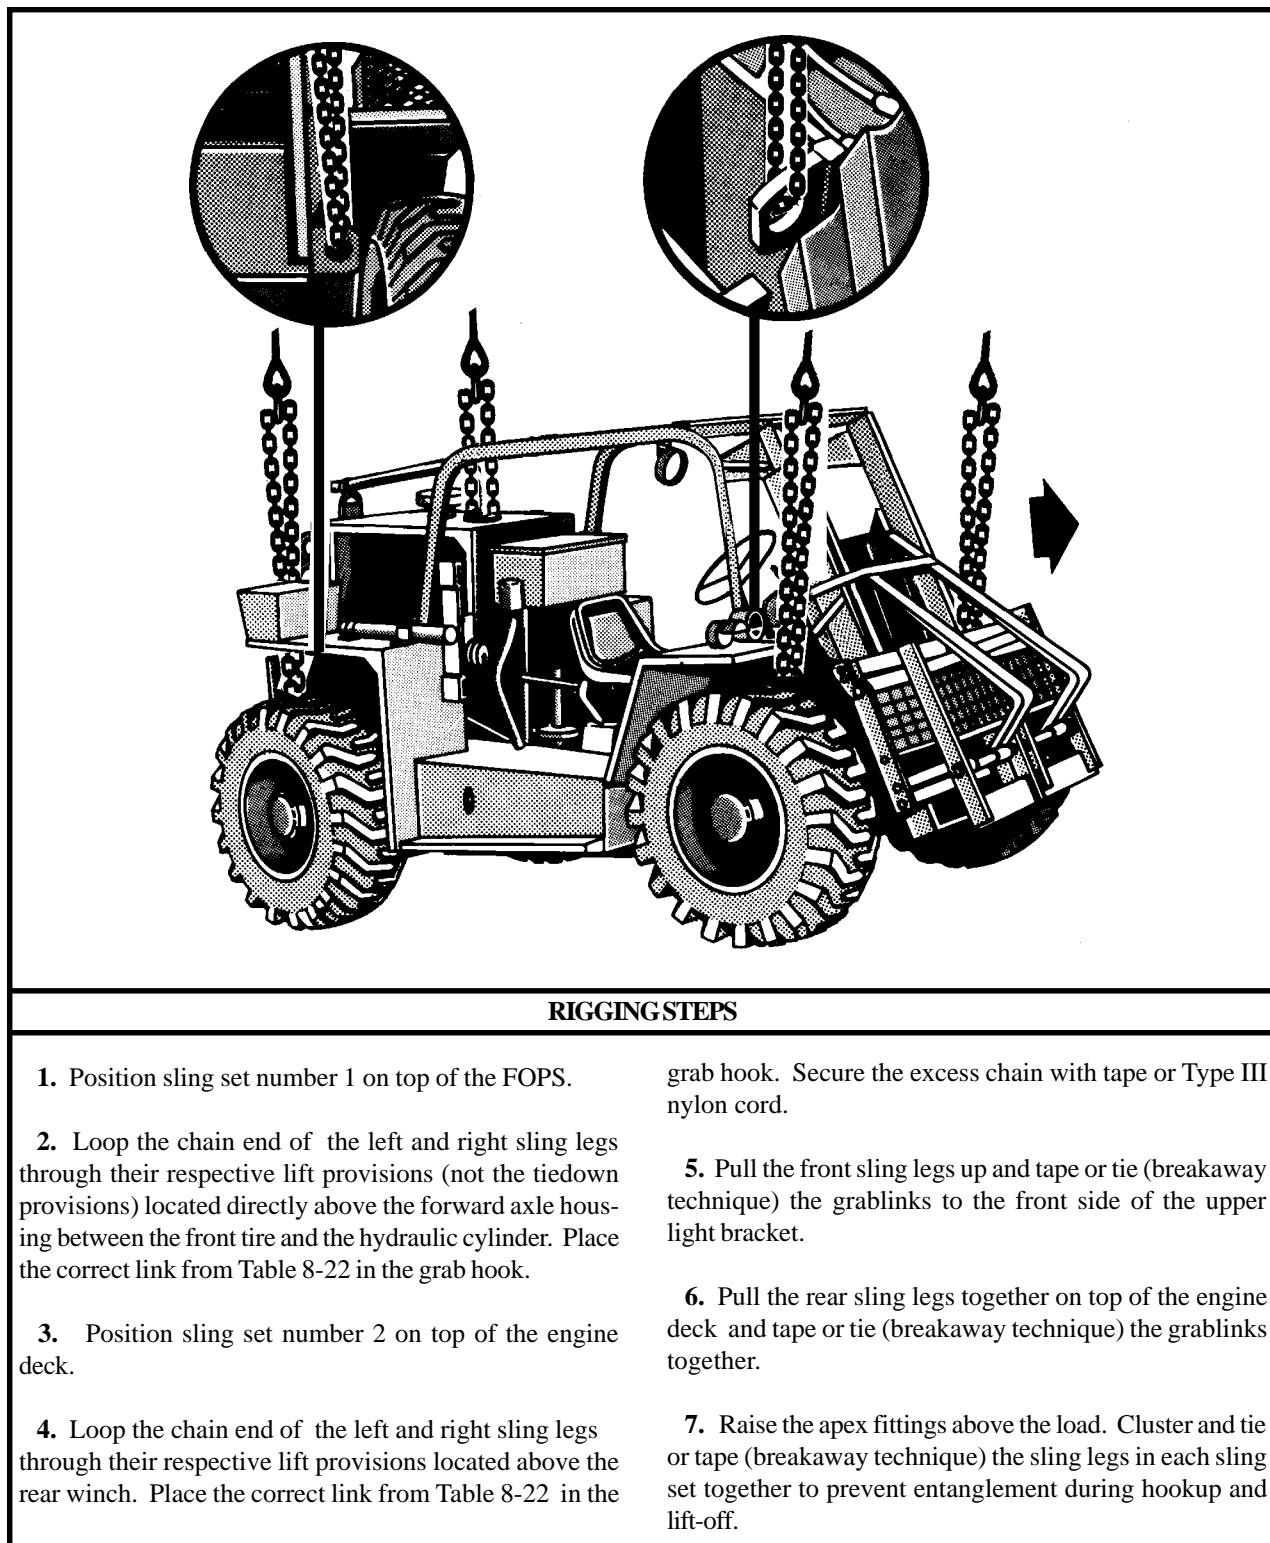

Figure 8-22. Truck, Forklift, RT-4000
(2) **Rigging.** Rig the load according to the steps in Figure 8-22.